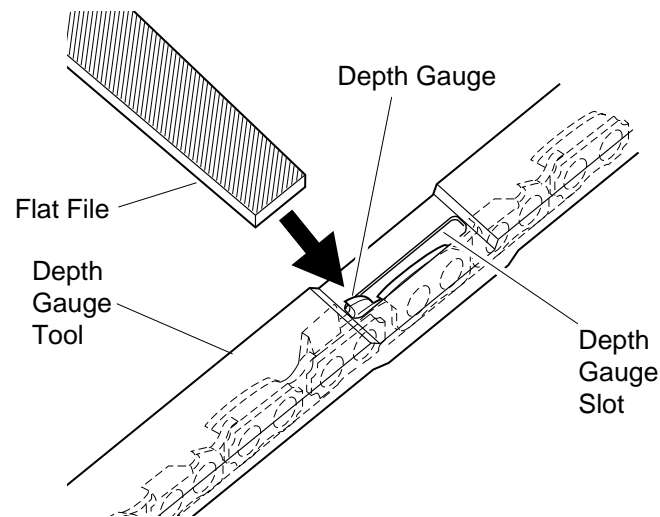

Figure 22 - Depth Gauge Tool On Chain
1. Place depth gauge tool firmly across top of two cutters. Make sure depth gauge enters slot in depth gauge tool (see Figure 22).